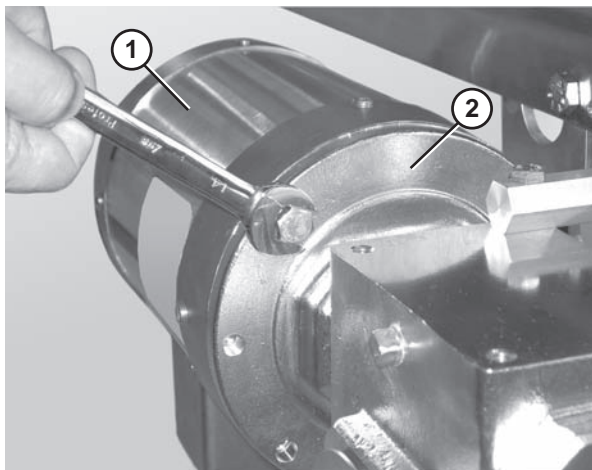

Figure 57
2. Remove the bolts that connect the motor to the drive assembly (**Figure 57**).
3. Remove the motor (**Figure 57, item 1**) from the drive assembly (**Figure 57, item 2**).